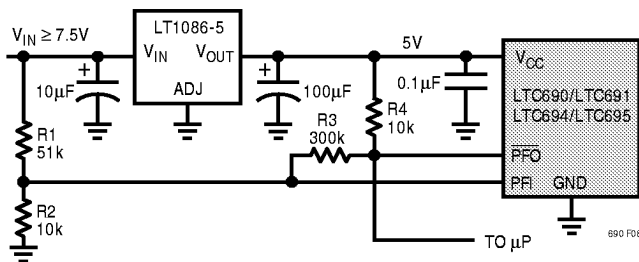

Figure 8. Monitoring *Unregulated* DC Supply with the LTC690's Power-Fail Comparator
The LTC690 family generates a Power Failure Output (PFO) for early warning of failure in the microprocessor's power supply. This is accomplished by comparing the Power Failure Input (PFI) with an internal 1.3V reference. PFO goes low when the voltage at the PFI pin is less than 1.3V. Typically PFI is driven by an external voltage divider (R1 and R2 in Figures 8 and 9) which senses either an unregulated DC input or a regulated 5V output. The voltage divider ratio can be chosen such that the voltage at the PFI pin falls below 1.3V several milliseconds before the 5V supply falls below the maximum reset voltage threshold 4.75V. PFO is normally used to interrupt the microprocessor to execute shutdown procedure between PFO and RESET or RESET.
The power-fail comparator, C3, does not have hysteresis. Hysteresis can be added however, by connecting a resistor between the PFO output and the noninverting PFI input pin as shown in Figures 8 and 9. The upper and lower trip points in the comparator are established as follows:
**Example 1:** The circuit in Figure 8 demonstrates the use of the power-fail comparator to monitor the unregulated power supply input. Assuming the rate of decay of the supply input  $V_{IN}$  is 100mV/ms and the total time to execute a shutdown procedure is 8ms. Also the noise of  $V_{IN}$  is 200mV. With these assumptions in mind, we can reasonably set  $V_L = 7.5V$  which is 1.25V greater than the sum of maximum reset voltage threshold and the dropout voltage